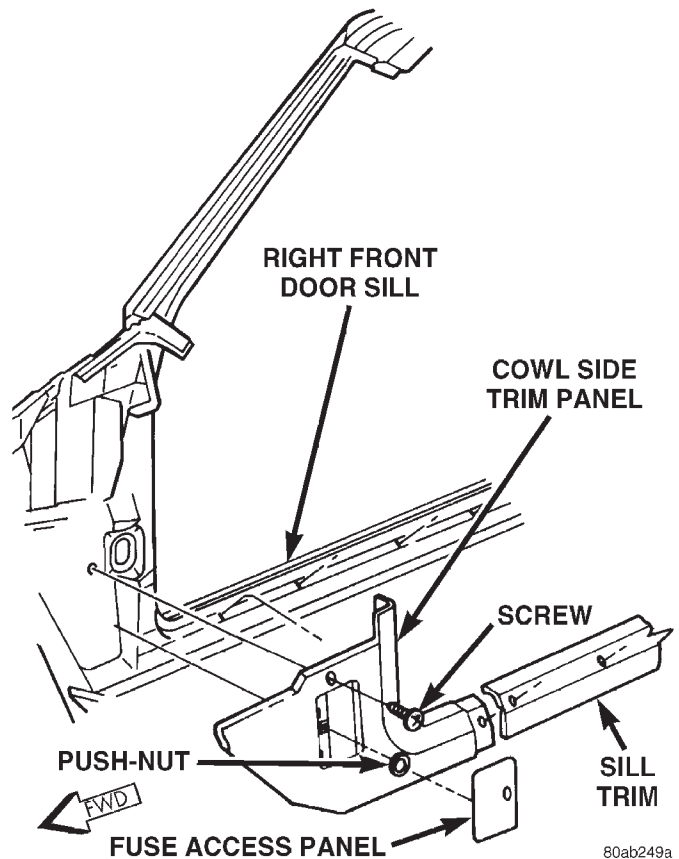

Fig. 1 Right Cowl Side Trim Remove/Install
- (1) Disconnect and isolate the battery negative cable.
- (2) Remove the fuse access panel by unsnapping it from the right cowl side trim panel.
- (3) Remove the stamped nut that secures the right cowl side trim to the junction block stud (Fig. 1).